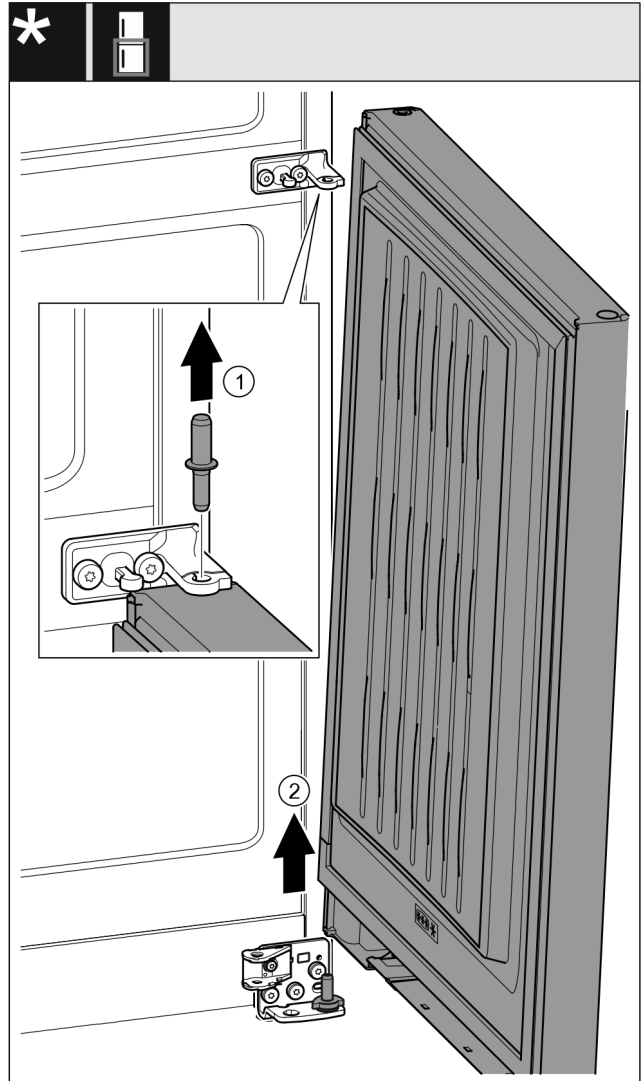

Fig. 23 *
- ▶ Pull out the bolts upwards. Fig. 23 (1)*
- ▶ Swing the door out, pull it upwards and place it to one side. Fig. 23 (2)*